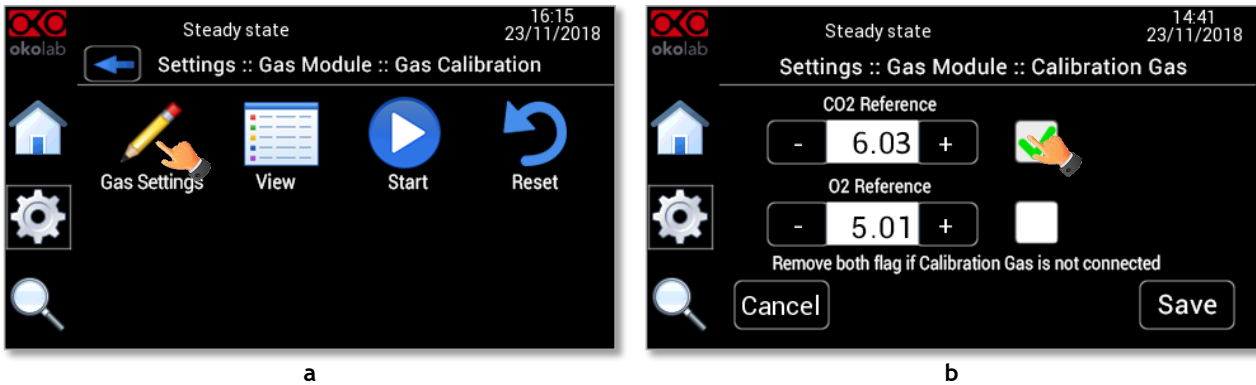

Figure 49. How to choose the gas to calibrate
4. Press on *Gas Module* icon (see Figure 49 a) and select *Gas Calibration* icon in the page opening (see Figure 49 b).
5. Press on *Gas Settings* icon (see Figure 49 a) and flag the gas on the reference of the gas that you want to calibrate (see Figure 49 b)